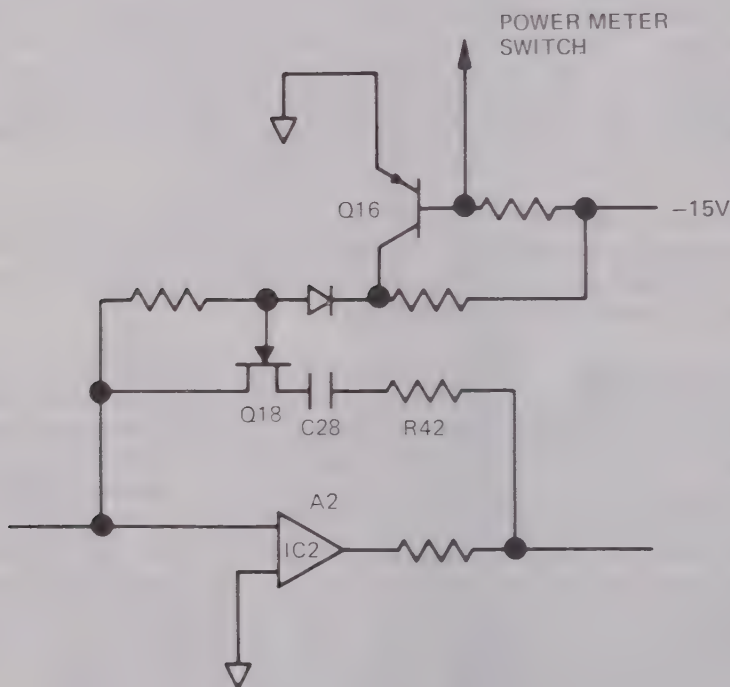

Fig. 11 Power meter levelling stabilization network
34. Power meter levelling. When the r.f. detector used for levelling is a power meter using a thermistor transducer, the stabilization of the levelling loop must be modified. The thermistor element has a slow response and thereby introduces excessive phase shift in the feedback loop resulting in loop oscillation. To avoid this, a stabilization network, shown in Fig. 11, consisting of C28 and R42, is introduced by switching Q18 on or off via Q16. With the modified loop stabilization, the response time of the closed loop is drastically increased to the order of *seconds*. This response time is perfectly compatible with the power meter which is essentially dictating the entire loop response. The operator must, however, be sure to limit the sweep time selector to the region between 10 and 100 s because the r.f. frequency sensitive variation will not be removed at higher sweep rates.